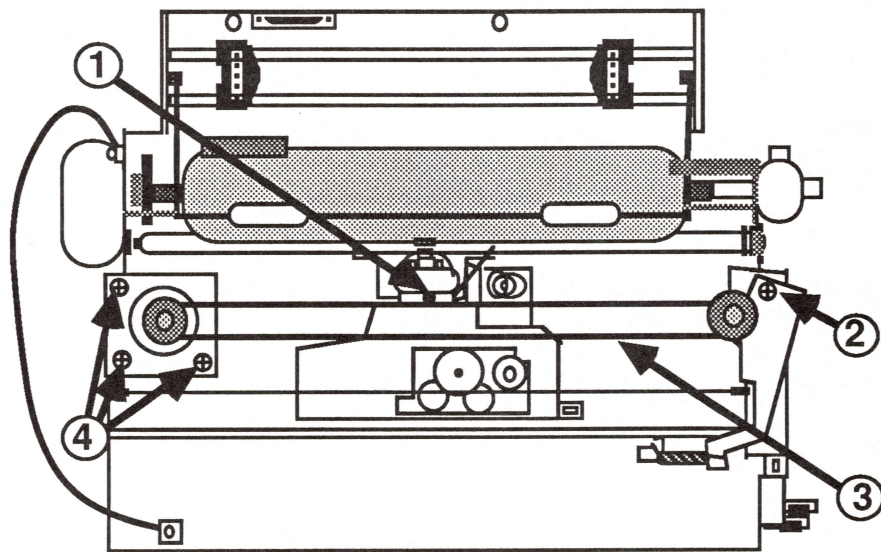

FIGURE 29
3. Remove the screw that holds the black plastic carrier belt guide (see Figure 29, #1). If the guide is not glued to the belt, pry the guide off the assembly and set it aside.
4. Loosen the carrier belt adjustment screw (see Figure 29, #2).
5. Gently push in on the metal plate that the screw is located on and remove the drive belt from the right carrier motor pulley. Lift the carrier belt from the machine (see Figure 29, #3).
6. Disconnect the three screws holding the carrier motor in place (see Figure 29, #4). The motor will drop out.
1. Position the carrier motor with the connector and wires towards the rear of the machine and replace the three screws (see Figure 29, #4).
2. Replace the carrier belt on the left pulley and position it (see Figure 29, #3). Push in on the metal plate of the carrier adjustment (see Figure 29, #2) and replace the carrier belt on the right pulley.
3. Place the plastic carrier belt guide into position and replace the screw (see Figure 29, #1).